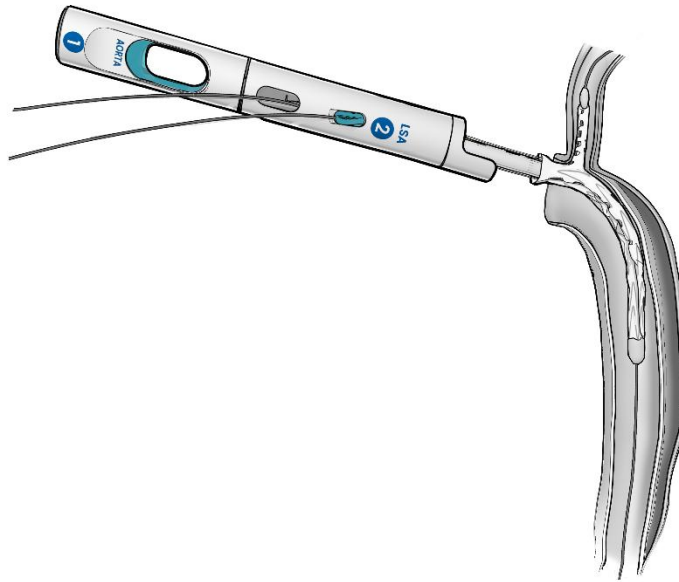

Figure 10. Introduce the Arcevo™ LSA device to the target position
11.3.1 Align the LSA branch with the location of the LSA vessel prior to inserting the Arcevo™ LSA implant into the transected thoracic aorta (**Figure 10**). The Arcevo™ LSA delivery system is not designed to be rotated once inserted into the aorta.
11.3.3 Advance the stented LSA branch into the LSA vessel via the ostium. Push the handle to advance the Delivery System until the collar of the Arcevo™ LSA implant aligns with the transected thoracic aorta, the LSA branch is fully inserted within the LSA vessel, and the implant is held against the outer curve as shown in **Figure 10**.